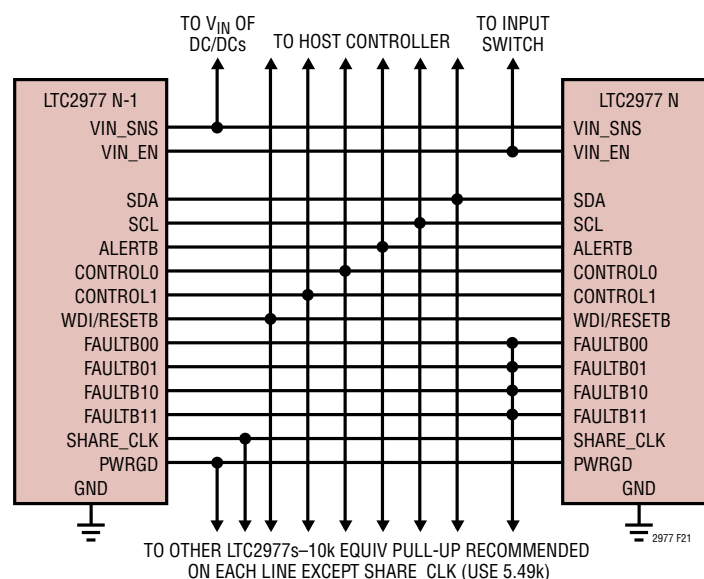

Figure 21. Typical Connections Between Multiple LTC2977s
Figure 21 shows how to interconnect the pins in a typical multi-LTC2977 array.
- The FAULTB $zn$  lines can be connected together to create fault dependencies. Figure 21 shows a configuration where a fault on any FAULTB $zn$  will pull all others low. This is useful for arrays where it is desired to abort a start-up sequence in the event any channel does not come up (see Figure 22).
- PWRGD reflects the status of the outputs that are mapped to it by the MFR\_PWRGD\_EN command. Figure 21 shows all the PWRGD pins connected together, but any combination may be used.